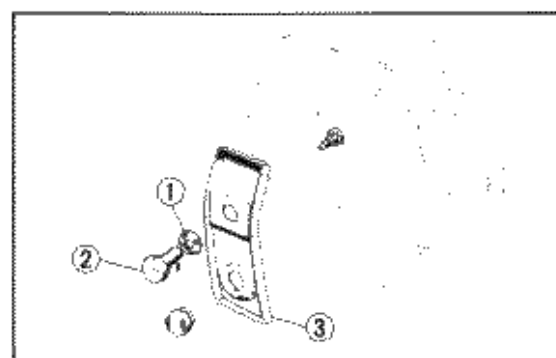

Fig. 15-3 ① Ring Nut ⑤ Switch Panel
2. Remove the switch panel: Remove the lighting knob and its ring nut. (Fig. 15-3)